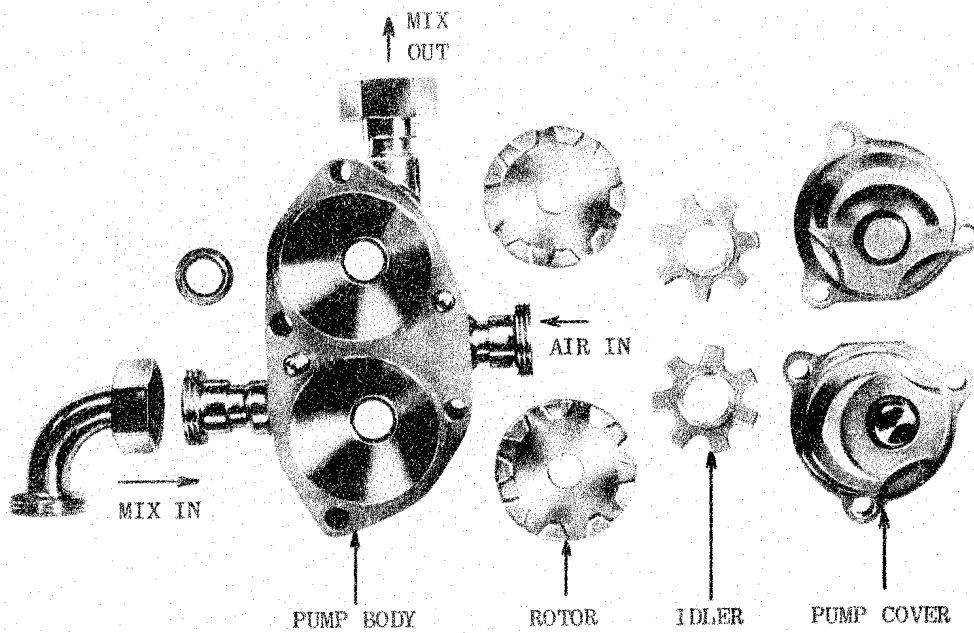

FIG. 5. DUPLEX PUMP ASSEMBLY
7. When assembling the pump note that the internal parts are numbered. They are not interchangeable between first (lower) and second (upper) stages. Take particular care not to force pump parts against one another, not to damage finely machined surfaces and not to pinch or distort the rubber sealing rings. The order of assembly is: 'O' ring, housing, rotor, idler, cover. See figure 5.